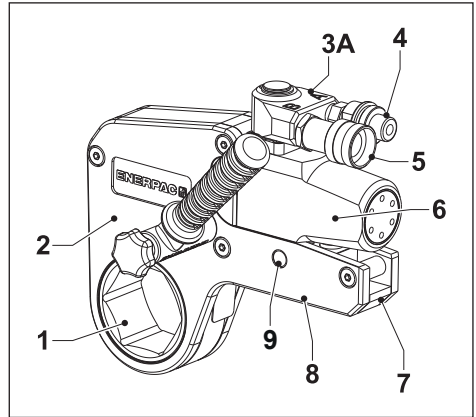

Fig. 1
- Never operate the wrench if it is known or suspected that the drive unit spacer retaining pin is worn, bent, missing or damaged. Drive unit could disengage from the cassette and become a dangerous projectile. See Item 9 page 10, Fig. 1 or 2.
### 3.1 Overview and features (Fig. 1 or 2)